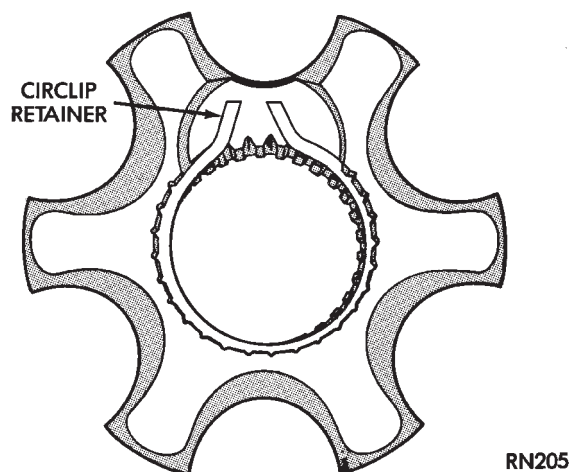

Fig. 3 Circlip Retainer in Cross S.S.G.
S.S.G. A single circlip located in a groove on the cross, is used to retain the cross to the shaft (Fig. 3). Loosen the damper weight bolts and slide it and the boot towards the inner joint. Expand the circlip with snap ring pliers and slide joint from shaft. Install damper weight, see Damper Weights.